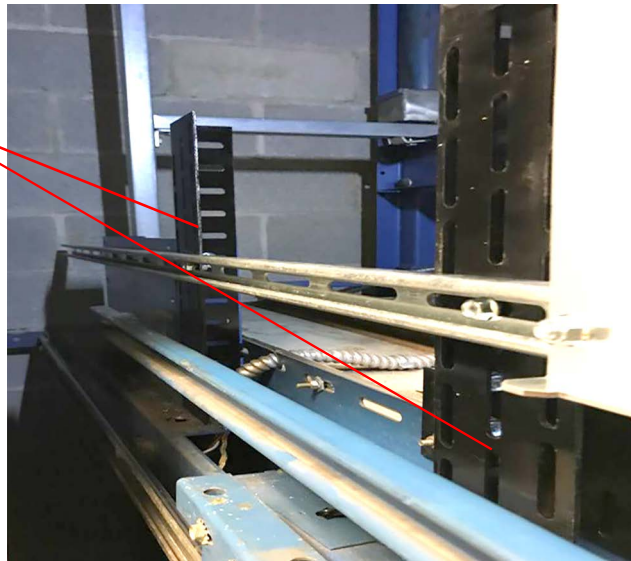

Figure 2 - Install Support Angles
- a. Use the included hardware to attach the support angles to the existing door operator header. See Figure 2 below and Figure on page 11.